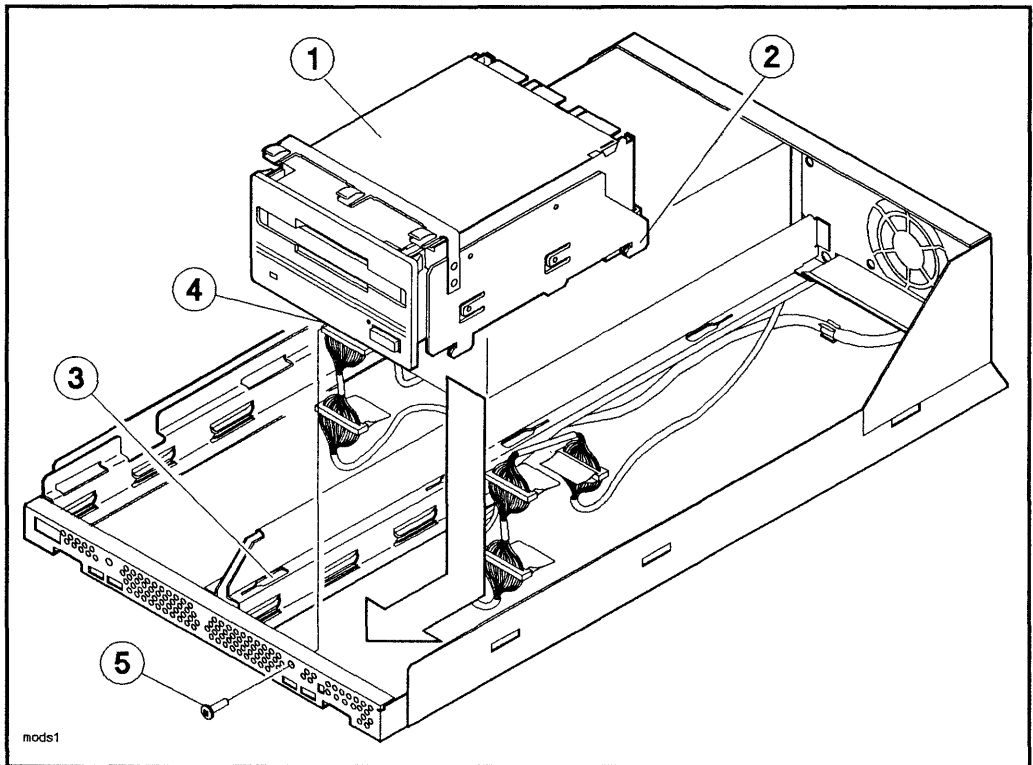

Figure 5-6. Installing the Rewritable Optical Disk Drive
1. Position the mounting tabs into the mounting slots (see Figure 5-6).